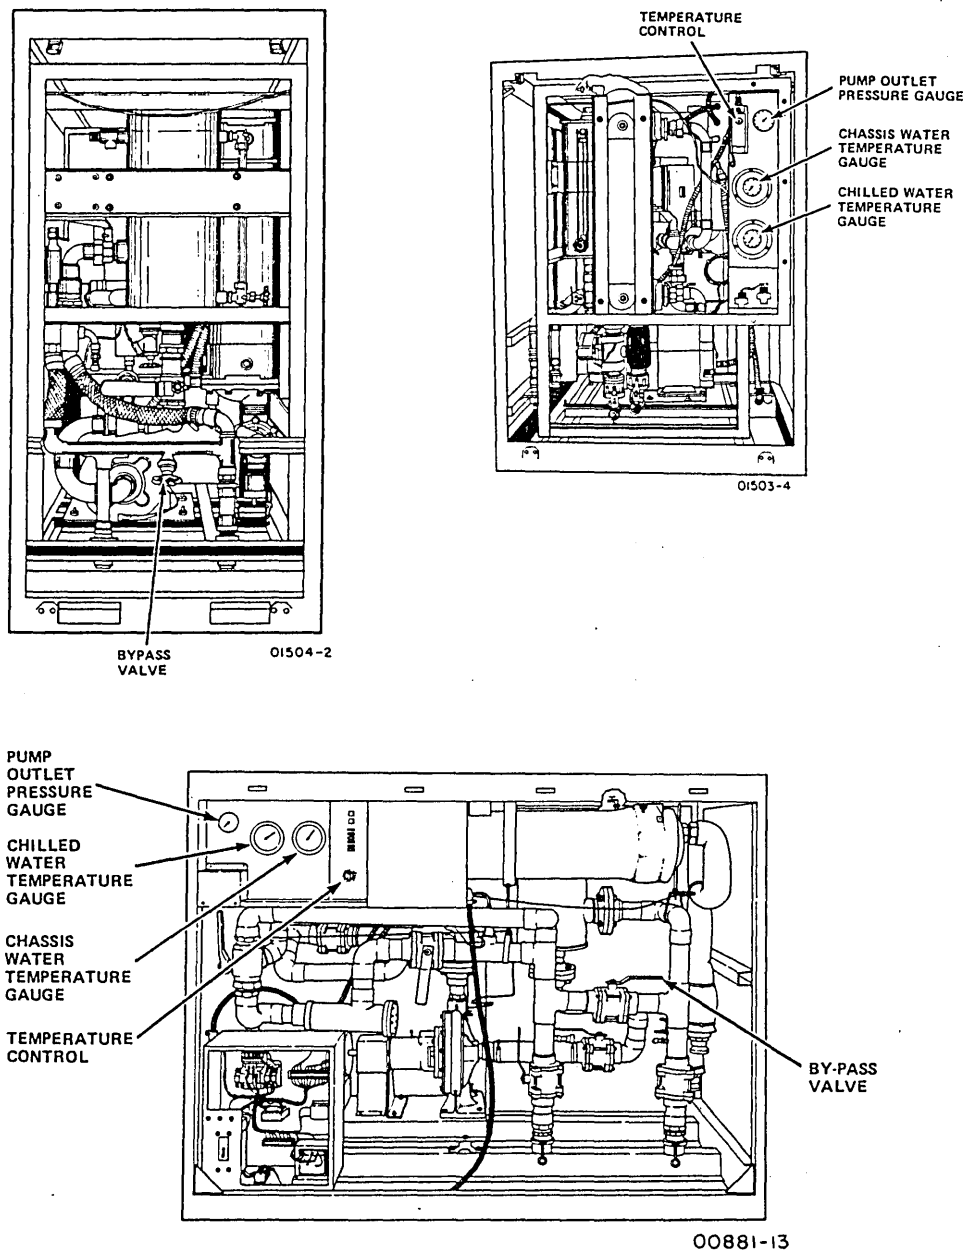

Figure 3-33. Water Cooling Unit Temperature, Pressure, and Flow Rate Meters
- ___ 1. Read PUMP OUTLET PRESSURE gauge (figure 3-33). Adjust bypass valve, if necessary, to obtain following pressure: